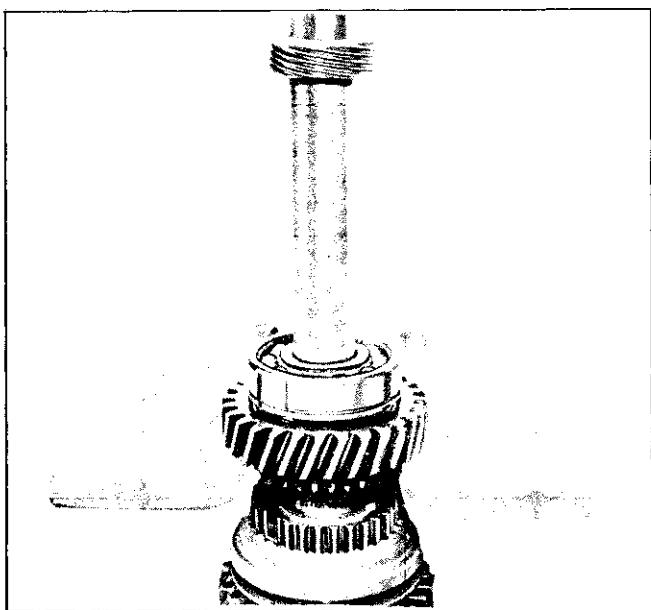

Fig. 7B-16 Removing Rear Bearing
3. Turn the rear of the mainshaft upward and install reverse gear, thrust washer, spring washer and rear bearing (Fig. 7B-15).